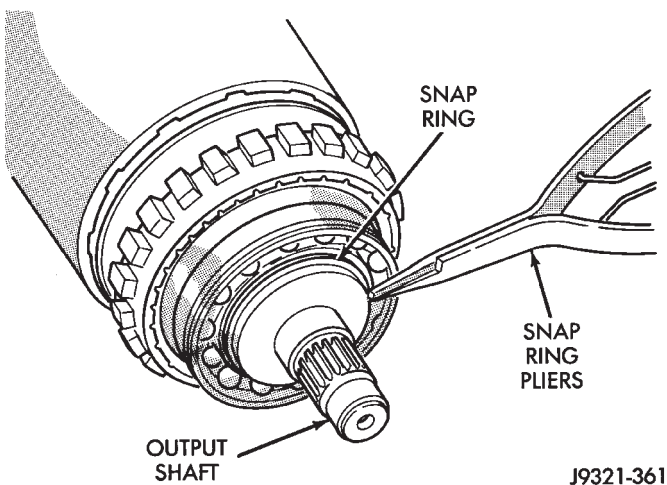

Fig. 17 Rear Bearing Snap Ring Removal/Installation
- (7) Remove snap ring that retains rear bearing on output shaft (Fig. 17).